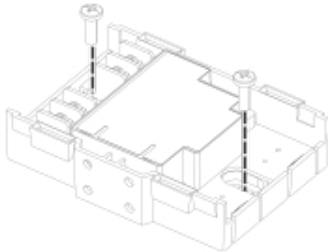

Fig. 4.8.1
2. Mark the drillings for the 3 dowel openings on a flat wall, drill the holes, put expansion bolts in and insert the screws loosely (Fig. 4.8.1).